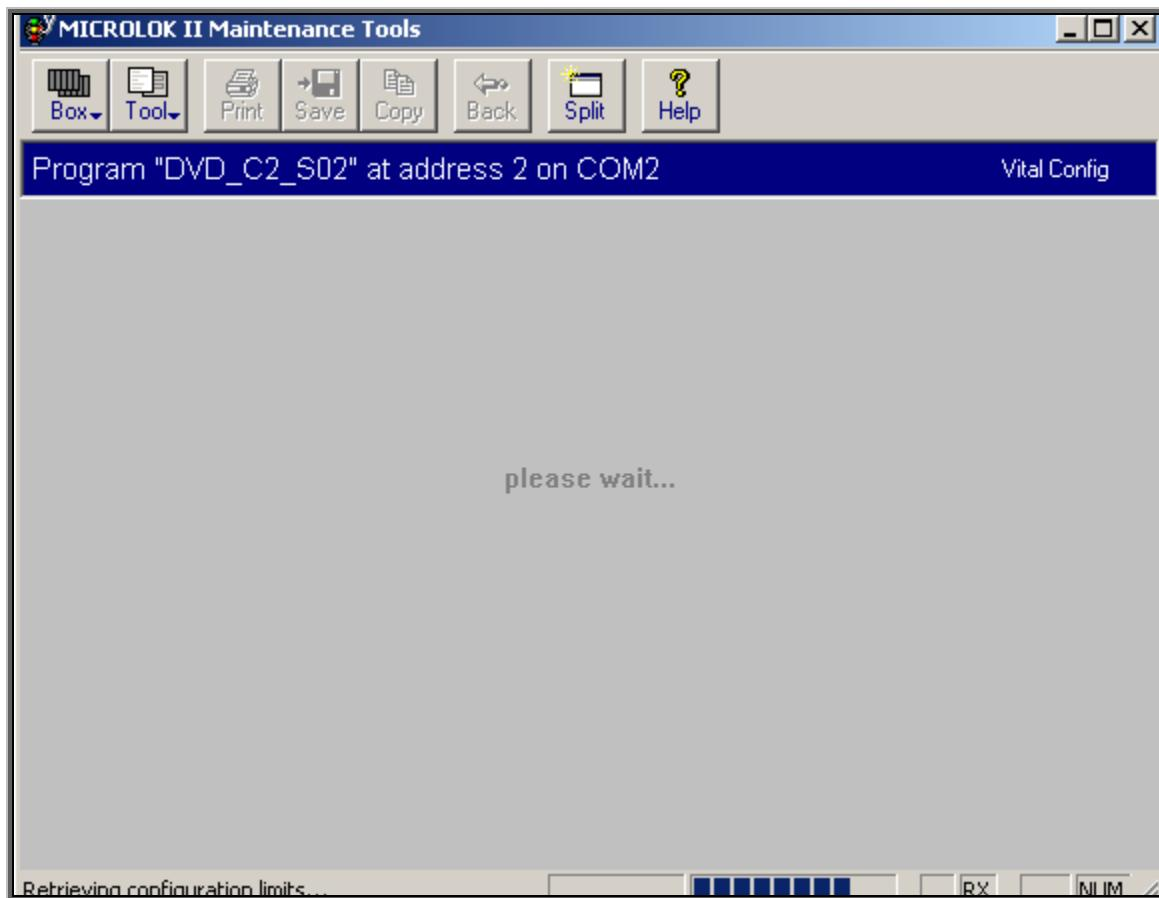

Figure-7.3.6
- ❖ “please wait...” window appears as shown in Figure-7.3.6.